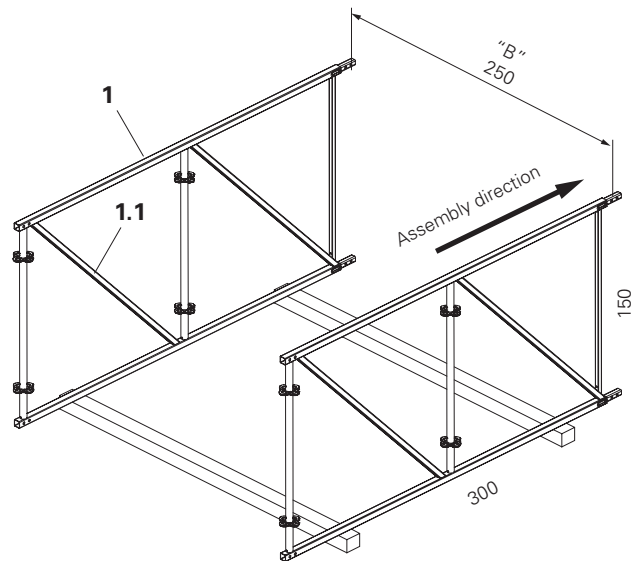

Fig. A1.01
1. Place Standard Elements URB (1) on two squared timbers. (Fig. A1.01)